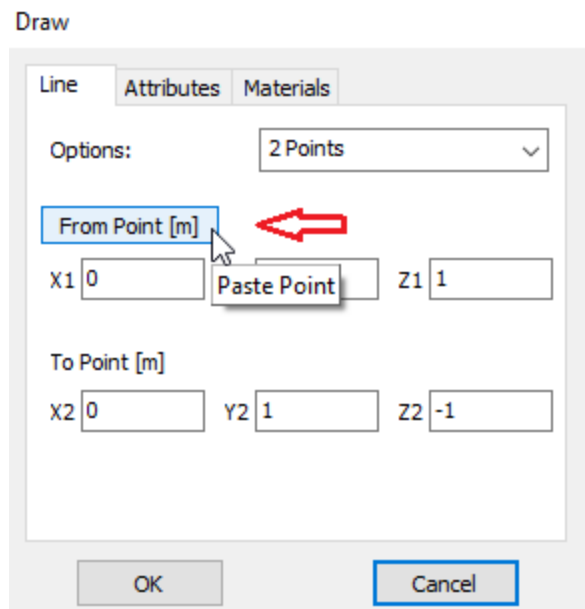

Fig. 4: Draw dialog box for wire #2 – Click the From Point button to paste the copied end of wire #1.
4. Click the **From Point** button to paste the copied point (see Fig. 4). Then, complete the definition of **wire #2**.